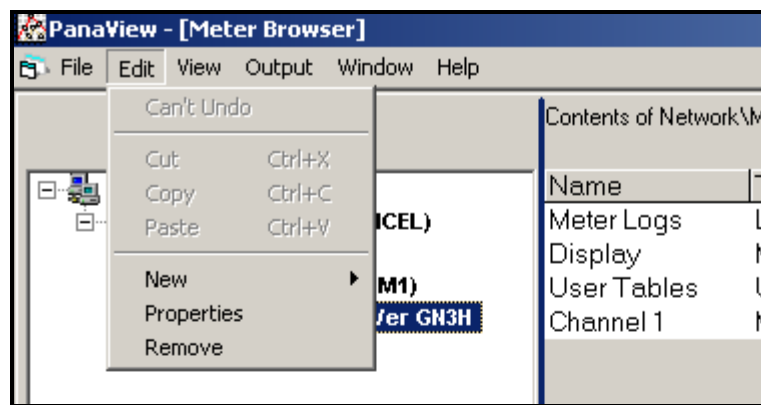

Figure 22: The *Properties* Option in the *Edit* Menu
2. Open the “Edit” menu and select the “Properties” option, as shown in Figure 22.